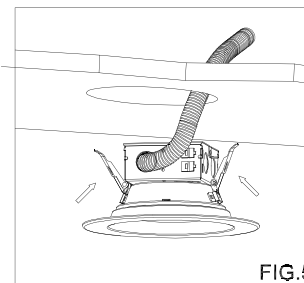

FIG.5
- Press the top portion of the spring clips against the side of the Housing Assembly. (FIG5)